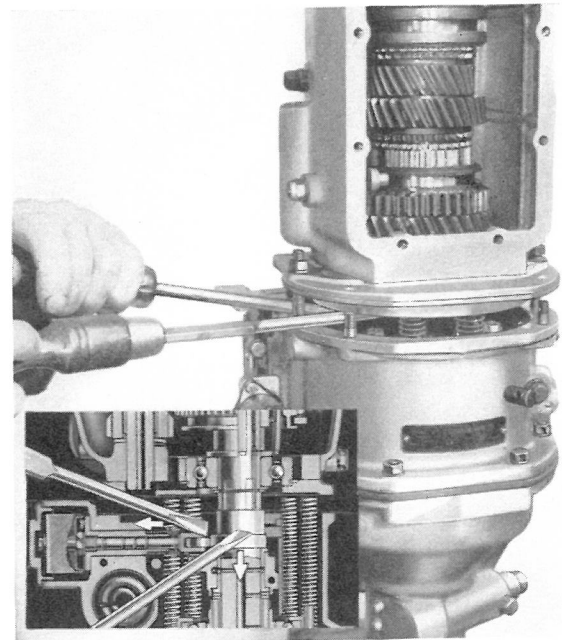

Fig. 4. Assembling the gearbox to the overdrive unit
4. Using one screwdriver to depress the hydraulic pump plunger and a second screwdriver to push the cam into alignment with the plunger roller, engage the pump plunger with the cam face as shown on Fig. 4.